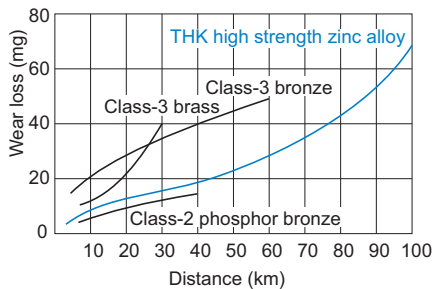

Fig.1 Wear Resistance of the High Strength Zinc Alloy
With a sliding bearing, a pV value, which is the product of the contact surface pressure (p) and the sliding speed (V), is used as a measuring stick to judge whether the assumed model can be used. Use the corresponding pV value indicated in Fig.1 as a guide for selecting a spline nut. The pV value also varies according to the lubrication conditions.
Fig.1 pV Value
From the diagram of pV values (see Fig.1 on **B 14-5**), it is judged that there will be no abnormal wear if the sliding speed (V) is 13.5 m/min or below against the "p" value of 1.73 N/mm2. Therefore, it is appropriate to select model DPM3560.